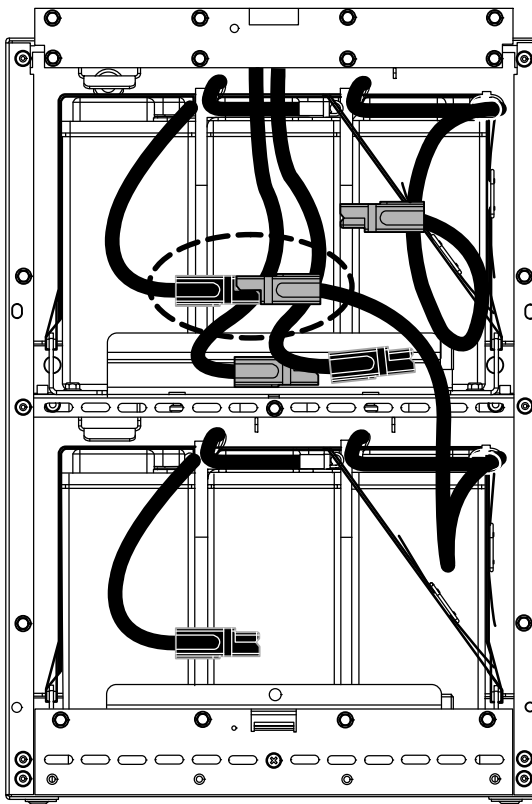

Figure 45. Disconnecting the Battery Trays
8. Disconnect the two battery trays by disconnecting the black connector from the top tray from the red connector from the bottom tray. See Figure 45.